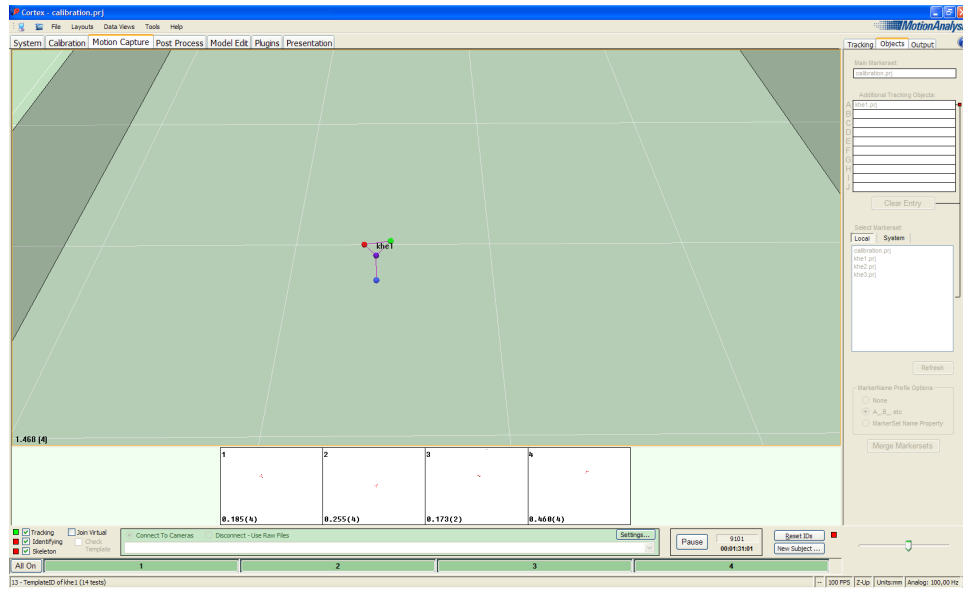

Figure 9: Robot identified in Cortex.
- Click **Run** and, there it is, your robot is identified, like in figure 9.